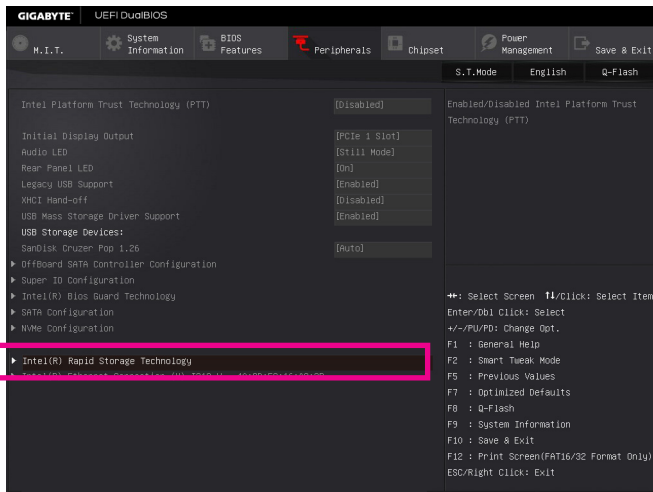

Figure 3
After the system reboot, enter BIOS Setup again. Then enter the **Peripherals/Intel(R) Rapid Storage Technology** sub-menu (Figure 3).